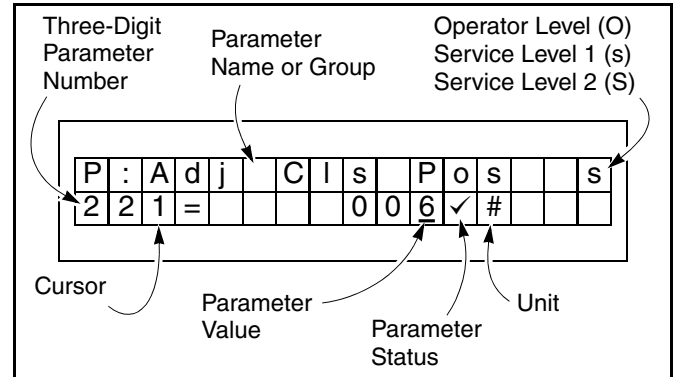

Figure 26
- Press the enter (●) key to access close-limit setting parameter P.221. The cursor will jump to the parameter value and display the currently saved value. (See Figure 26.)